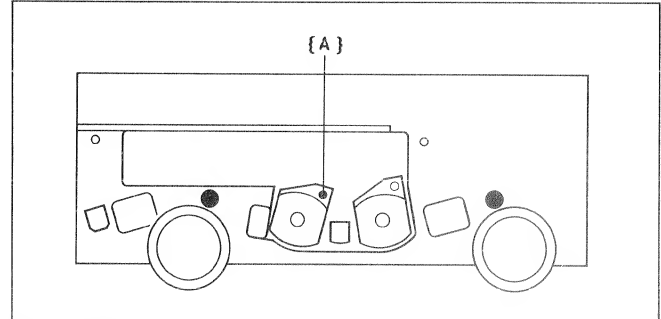

Fig.5.15
-> Fig.5.15/5.16
4. The subsequent measuring and adjusting procedure is carried out according to section 5.2.2 (instead of azimuth adjustment knob, azimuth adjustment screw {A} fig.5.15).